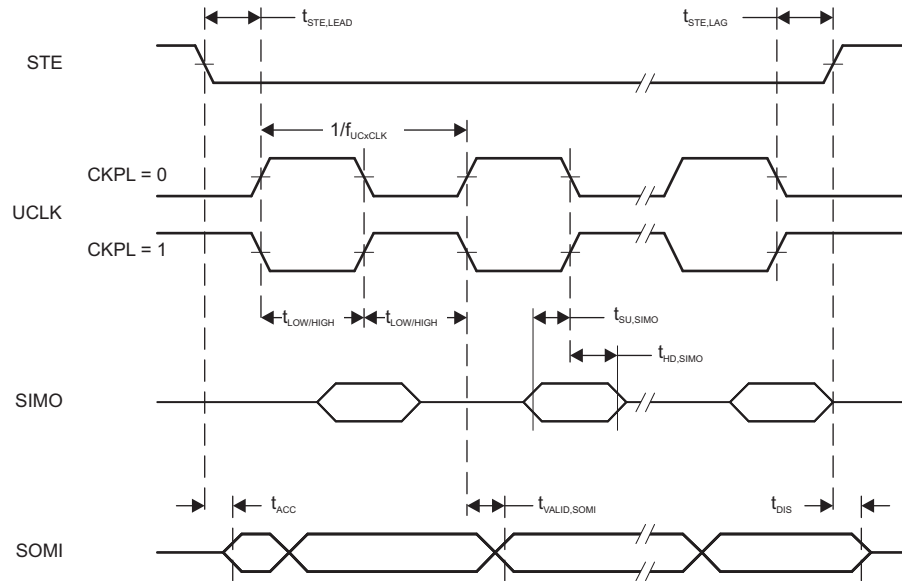
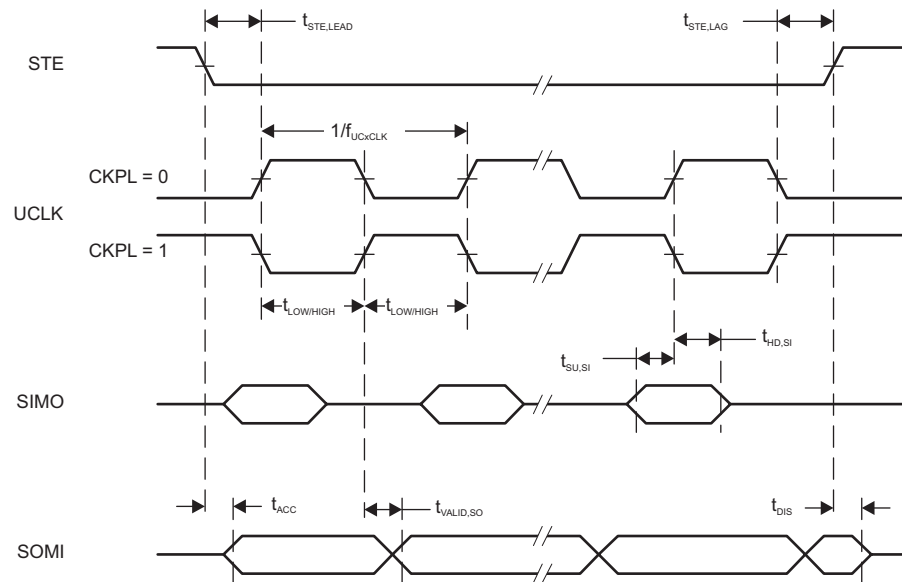

Figure 5-12. SPI Slave Mode, CKPH = 0
Figure 5-13. SPI Slave Mode, CKPH = 1
(2) Specifies the time to drive the next valid data to the SOMI output after the output changing UCLK clock edge. See the timing diagrams in Figure 5-12 and Figure 5-13.
(3) Specifies how long data on the SOMI output is valid after the output changing UCLK clock edge. See the timing diagrams in Figure 5-12 and Figure 5-13.